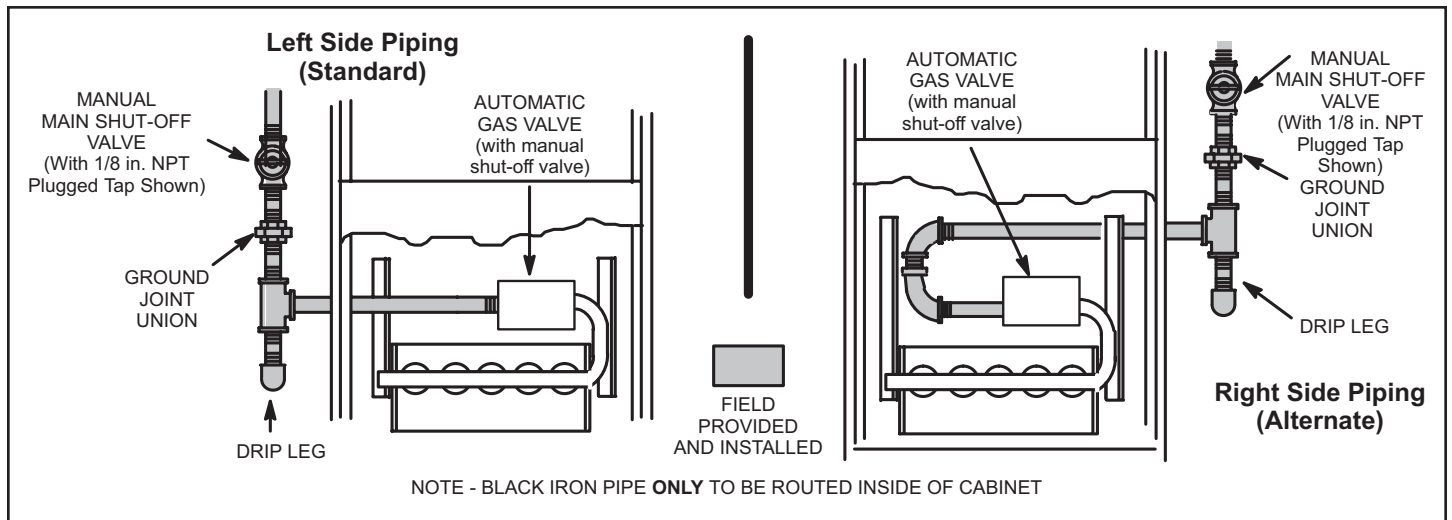

Figure 54.
1. Gas piping may be routed into the unit through either the left or right hand side. Supply piping enters into the gas valve from the side of the valve as shown in Figure 54.
3. Gas piping must not run in or through air ducts, clothes chutes, chimneys or gas vents, dumb waiters or elevator shafts. Center gas line through piping hole. Gas line should not touch side of unit. See Figure 54.